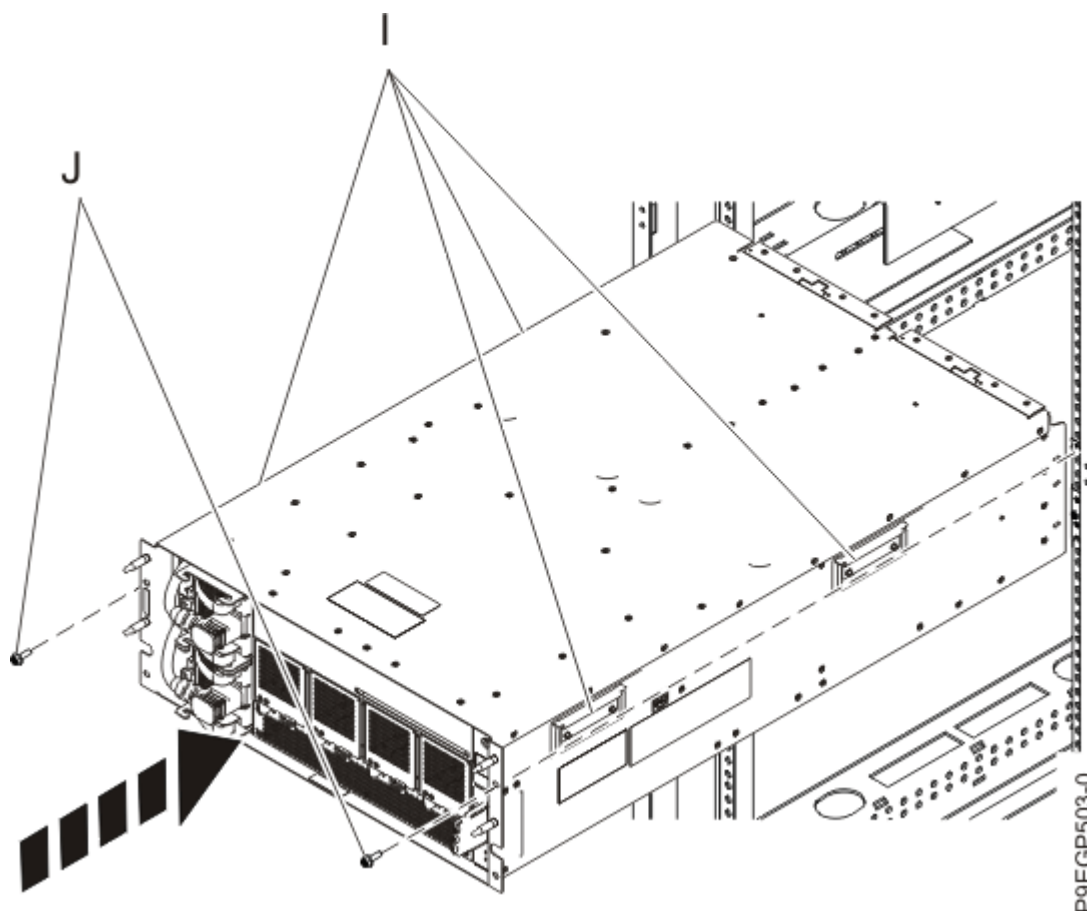

Figure 9. Installing the drawer into a rack
- a) Using three people, have two people hold onto the four handles **(I)**, as shown in Figure 9 on page 13, and one person in front of the drawer to guide the drawer. Lift the drawer and position it over the front of the rails.